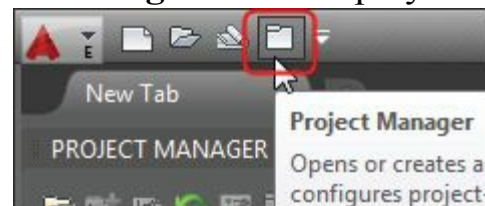

Figure-3. Project Manager button
- Click on the **Project Manager** button in the **Quick Access Toolbar**; refer to Figure-3, if the **Project Manager** is not displayed.